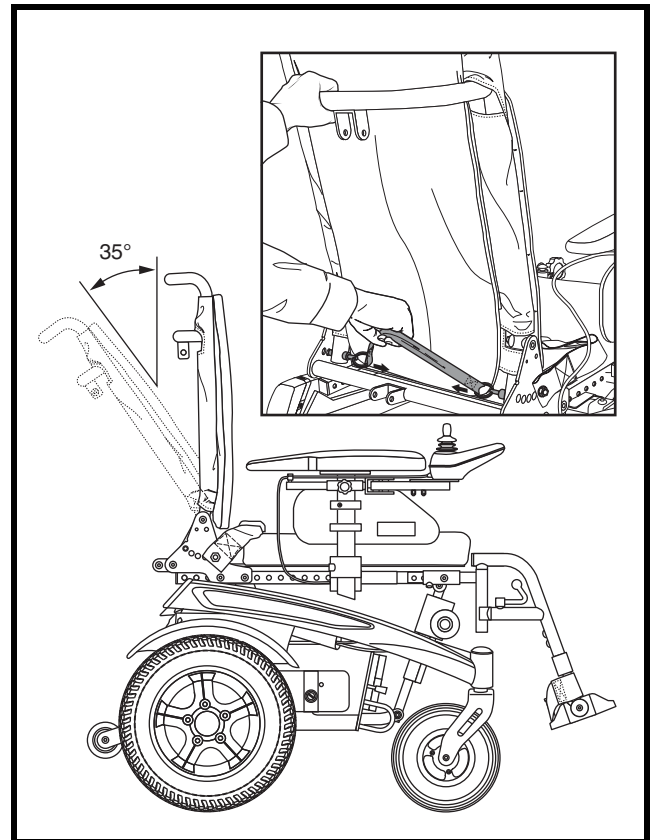

Figure 11. Manual Recline Seatback Adjustment
1. Pull the adjustment strap on the bottom portion of the seatback. See figure 11.